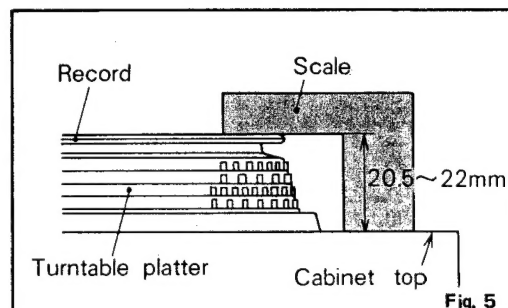

Fig. 5
- (f) Measure from the surface of the cabinet to the height of the installed record. This dimension should be within 20.5–22.0 mm (0.807–0.870 in.). Adjust the sub-chassis suspension screws to acquire this distance. Refer to Fig. 5.